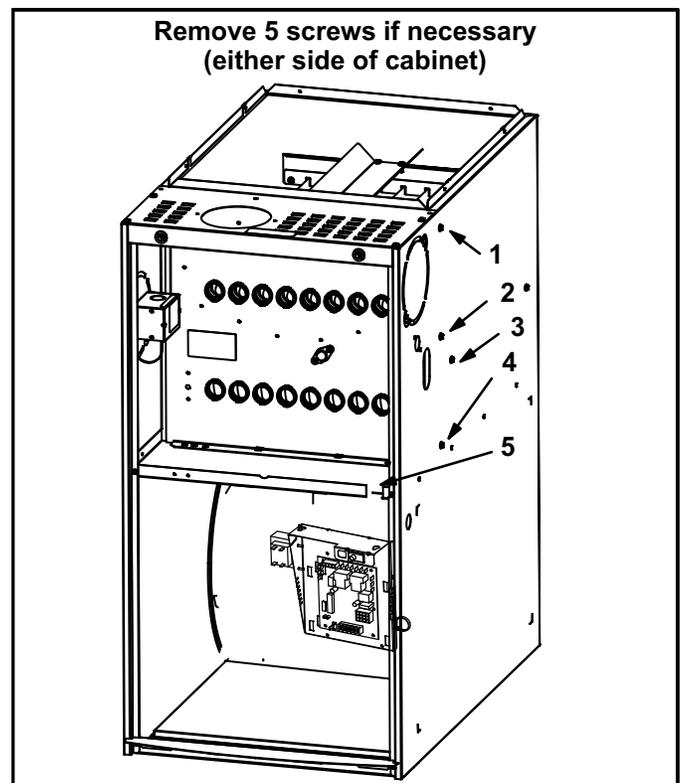

FIGURE 23
- 10 - Remove heat exchanger. It may be necessary to spread cabinet side to allow more room. If so, remove five screws from the left side or right side of cabinet. See figure 23.